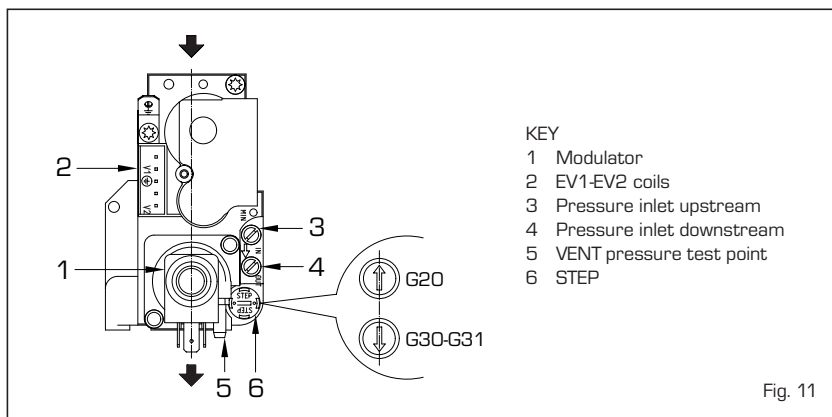

Fig. 11
- Remove the cap (3) from the modulator.
- Check the gas inlet pressure at the relevant pressure test point (3 fig. 11) with the boiler running at the maximum output.
- Regulate the maximum pressure by turning the nut with a fixed wrench (1) searching for the maximum pressure **Table 3**.